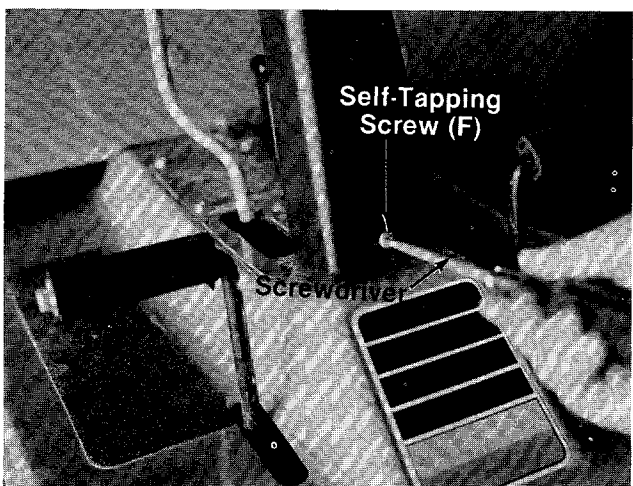

FIGURE 7.
7. Secure cover to support bracket with two hex self-tapping screws (F) provided. See figure 7.